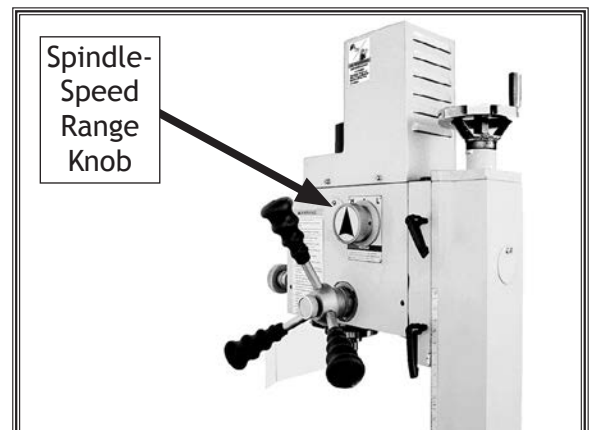

Figure 16. Rotate spindle-speed range knob right for low setting.
4. Rotate spindle-speed range knob to low "L" gear setting (see **Figure 16**).